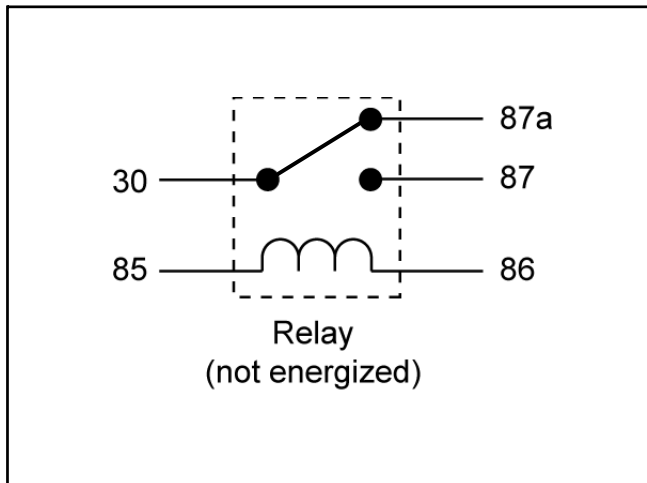

Figure 17
2. Verify the coil resistance between terminals 85 and 86 with a multimeter (ohms setting). Resistance should be from 70 to 90 ohms. There should be continuity between terminals 87a and 30 (Figure 17).
3. Connect multimeter (ohms setting) leads to relay terminals 30 and 87. Ground terminal 86 and apply +12 VDC to terminal 85. The relay should make and break continuity between terminals 30 and 87 as 12 VDC is applied and removed from terminal 85 (Figure 17).
4. Connect multimeter (ohms setting) leads to relay terminals 30 and 87a. Apply +12 VDC to terminal 85. With terminal 86 still grounded, the relay should break and make continuity between terminals 30 and 87a as 12 VDC is applied and removed from terminal (Figure 17).